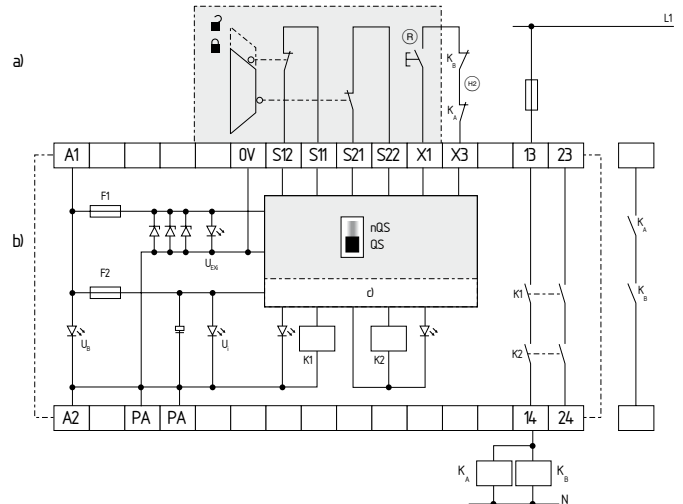

Fig. 6
**Dual-channel control, shown for a guard door monitor with two position switches where one has a positive break contact; with external reset button (R) (Fig. 6)**
- (R) = Feedback circuit